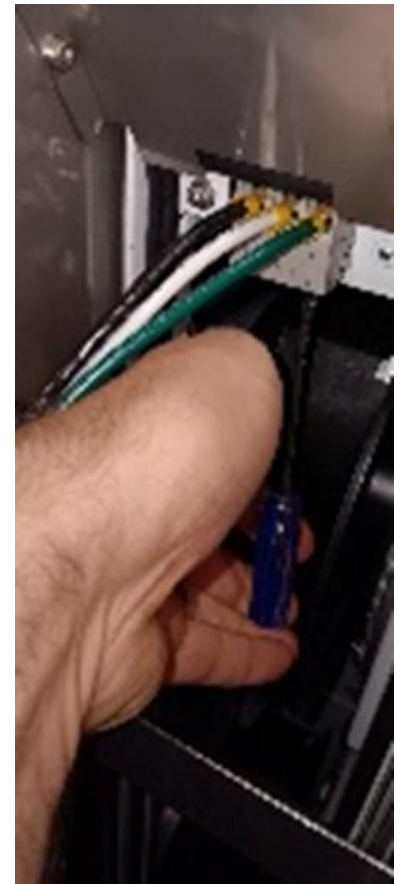

Figure 7 –Disconnecting Line (L), Neutral (N), & Earth (PE) wires from screw terminal
- b. On the back wall, locate the 3-wire connector that holds Line (L), Neutral (N), & Ground (PE) wires together and that is screwed into HX or back wall's pass-through opening (Figure 7).